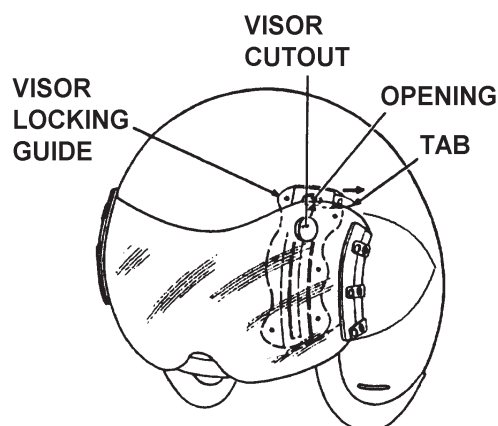

Figure 3-19. Visor Locking Guide and Visor
- a. Referring to Figure 3-19, ensure that the tab has been moved as far as possible out of the visor locking guide.
- b. Place the sides of lens into the grooves of the left-hand and right-hand visor tracks. Referring to Figure 3-19, slide the lens as far back as possible so that the lens cutout is aligned with the opening at the top of the visor locking guide.